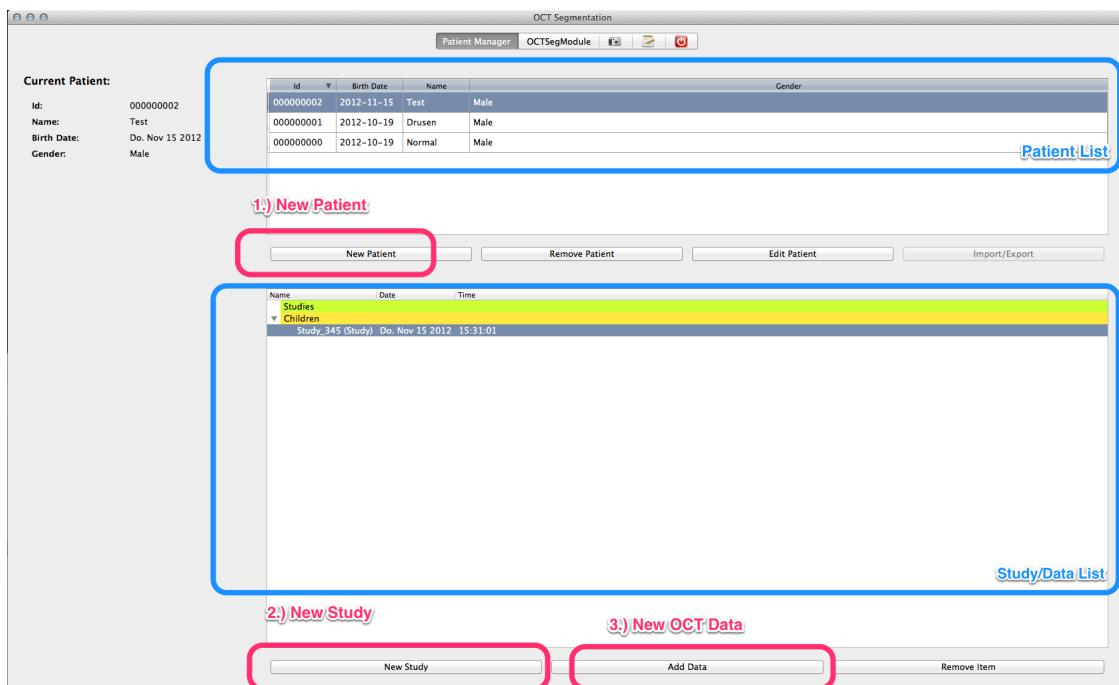

Figure 3: Patient Manager Module
To import a new OCT image data set click on "New Patient" (see number 1 in Figure 3) first and enter patient specific information as requested in the dialog box that will open. Note: The Patient ID will be assigned automatically.
After creating a new patient you'll have to create a new study, by clicking on "New Study" (see number 2 in Figure 3). In the dialog that will open you can change the Study name or leave it as suggested. Institution name is optional. To finally add an OCT slice stack to the new patient/study combination press the "Add Data" button (see number 3 in Figure 3).
- All patients known to the application will be shown in the upper list view marked in blue as *Patient List* (see Figure 3).
- The created studies for a particular patient are listed in a tree like structure together with the data they encapsulate (shown with a blue mark entitled "*Study Data List*" see lower part of Figure 3).